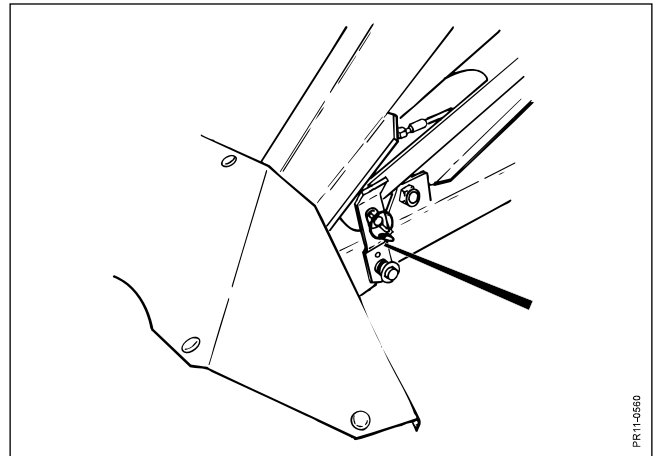

Fig. 2-7
- Fig. 2-7:** Before transport of the machine, release the spring transport lock from the support pin by turning it 90° upwards over the pin and secure it by the cotter pin.
IMPORTANT: The lock must always be in the position shown at fig. 2-7 when transporting the machine.